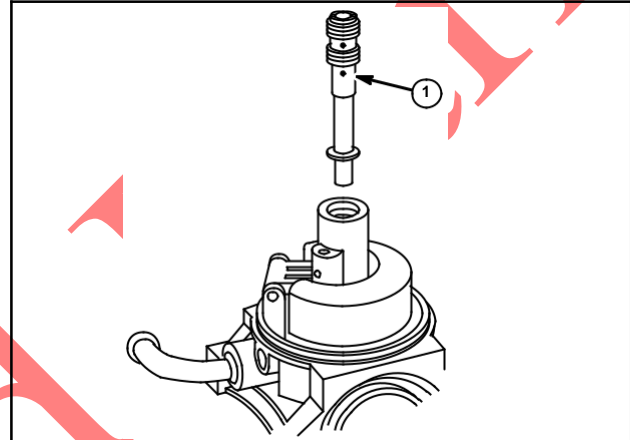

Fig. 104
Using Tool #19280, Carburetor Screwdriver, remove main carburetor emulsion tube (1), Fig. 104.